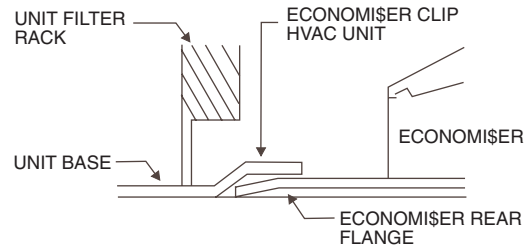

Fig. 31 — Rear EconoMi\$er Flange Installation
6. Slide the EconoMi\$er assembly into the rooftop unit. See Fig. 31 and 32.
NOTE: Be sure to engage rear EconoMi\$er flange under tabs in return-air opening of the unit base. See Fig. 31.